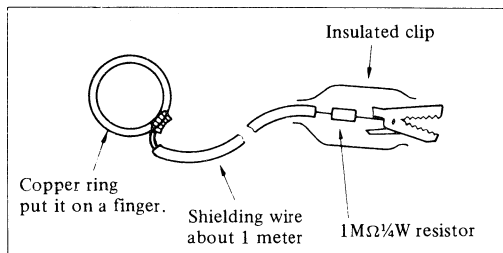

Fig. 1
- (1) Keep all terminals of a device in the conductive mat during transportation and storage to keep them at the same potential. A conductive mat called "MOSPAK" is commercially available. Unless otherwise specially stated, all HITACHI IC memories will be shipped in our conductive mats. Store them as they are.
- (2) When handling by hand IC memories for inspection or connection, his finger must be grounded as shown in Fig. 1. Do not forget to insert a 1M ohm resistor to protect him against an electric shock.